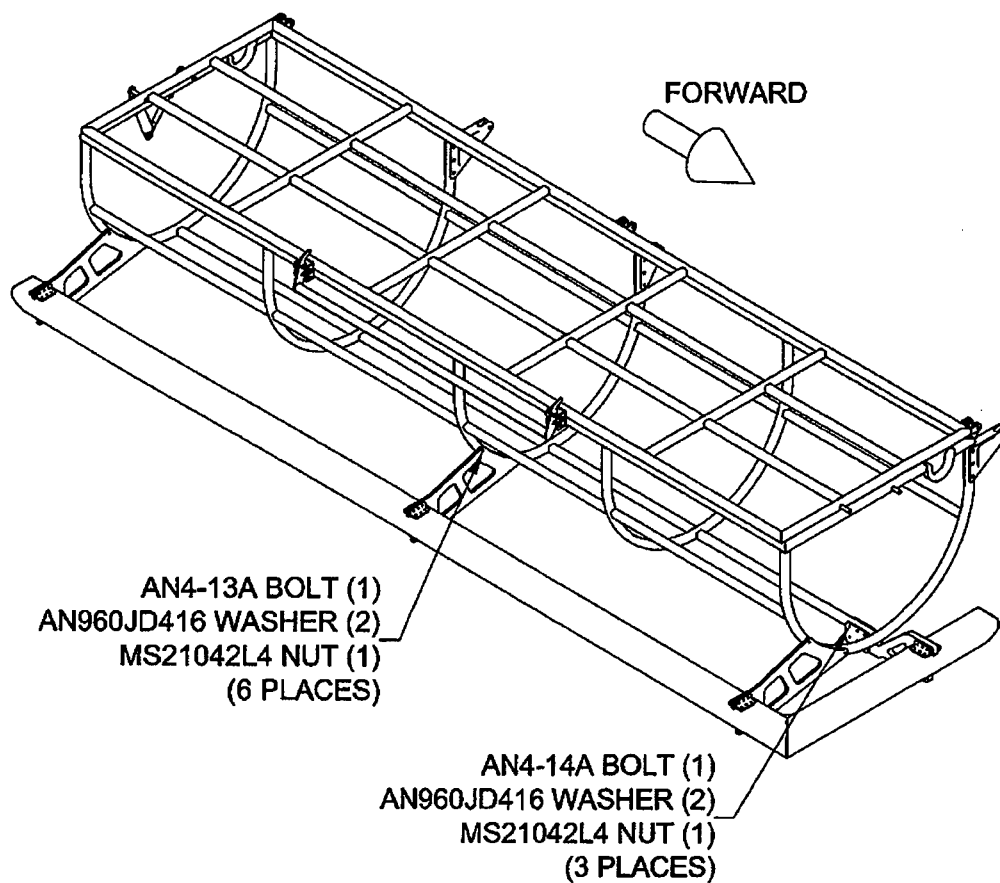

Figure 13 – Step Installation
- 3.2.4 Reposition the step assembly with the basket and install as shown in Figure 13. Torque the AN4 bolts to 50-70 in-lbs (5.6-7.9 N-m).
- 3.3.2 Align the D3724-041/-042 Step Assembly with the *Heli-Utility-Basket™* and install as shown in Figure 13. Torque the AN4 bolts to 50-70 in-lbs (5.6-7.9 N-m).